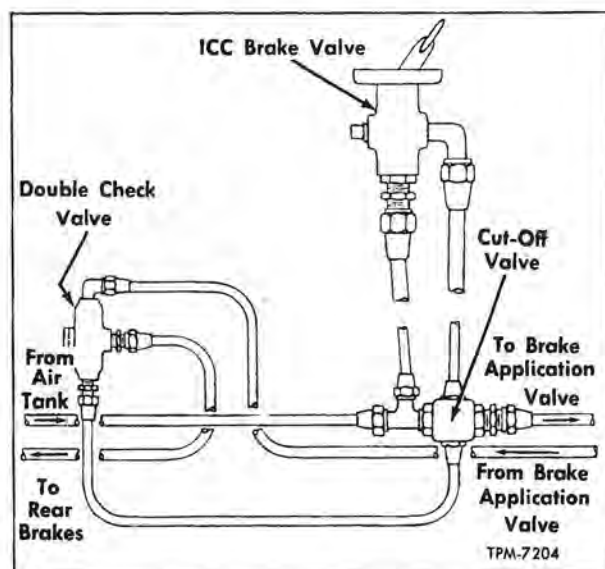

Figure 24—Auxiliary Brake Control Installation
I.C.C. (Interstate Commerce Commission) brake valve, along with an air pressure cut-off valve and a double check valve are installed as special equipment on some vehicles (fig. 24). The I.C.C. valve is provided as an emergency method for applying the air brakes on rear axle. Valve is mounted at right side of driver. Valve control lever should remain in "OFF" position at all times during normal operation. When lever is moved to "ON" position, full air pressure in system is applied to brakes on rear axle only.